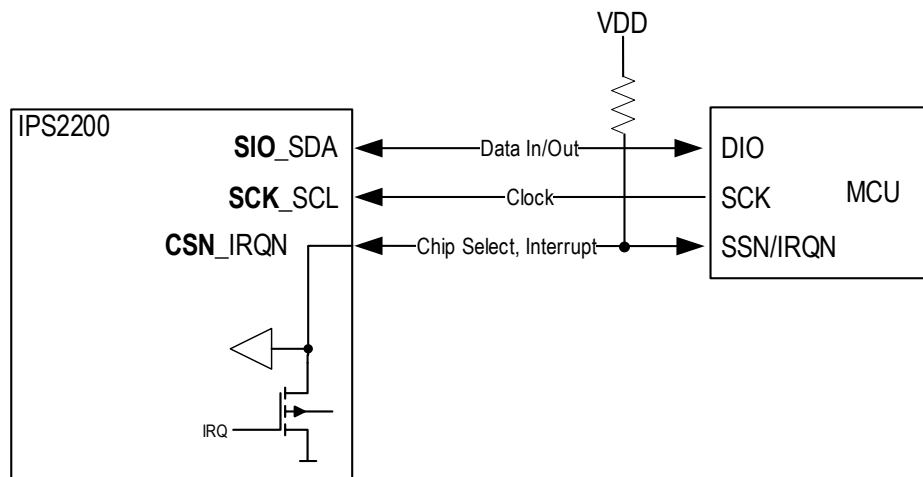

Figure 15. Half Duplex 3-3 Wire SPI Interface with Interrupt
- In this state, when no data is transmitted, the MCU port (CSN\_IRQN) switches to digital input and enables the pin as an active low interrupt output; see Figure 15.